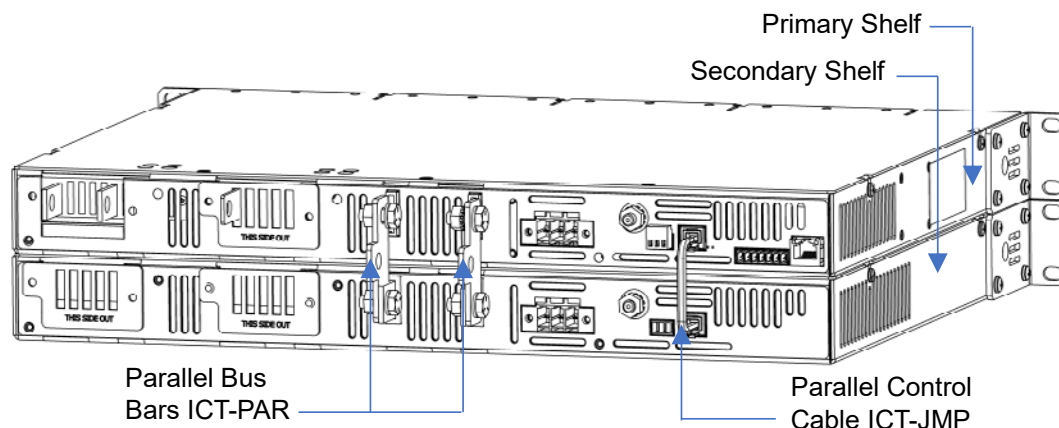

Figure 9. Primary and Secondary Shelf Connected in Parallel
2. Install the Parallel Control Cable (ICT-JMP) connecting the two RJ11 style SHARE ports as shown in Figure 9 to allow the primary ICM to control the secondary shelf.